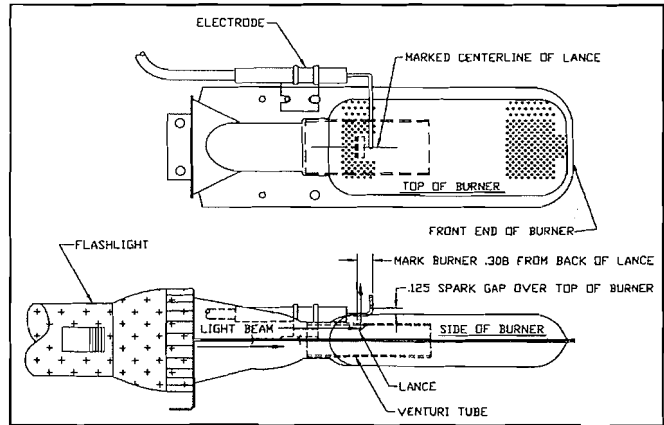

Figure 4
1. Remove burner from combustion chamber by removing six (6) screws which attach the burner to the chamber and air baffles (plates).
- b. Light will reflect off the lance in the venturi of the burner and shine through a portion of the two (2) rolls of burner ports in the top of the burner.
4. Adjust electrode so the electrode probe is positioned along the marked center line of the burner lance and the tip of the electrode terminates $3/16"$ from the back of the lance. (At the line marked in Step 2-c.) (See Figure 4.)